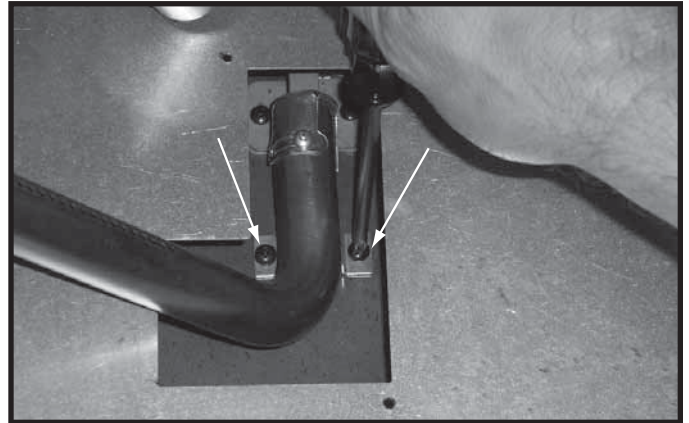

Figure 14.19 Remove Outside Burner Tubes
- Remove three outside burner tubes by removing two screws on each tube. It will be necessary to remove two screws from the pilot assembly and two screws from the pilot shield on the rear burner tube prior to removal. See Figure 14.19.